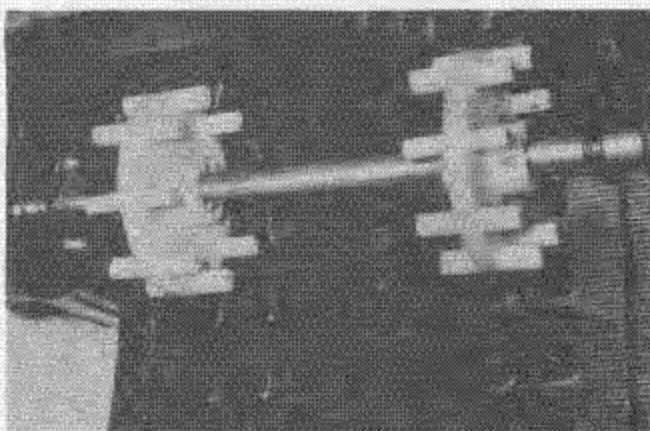

Fig. 43 — Track Drive Shaft and Sprockets
5. Remove bolts securing sprockets to drive shaft and loosen both bearing lock collars, Fig. 43.